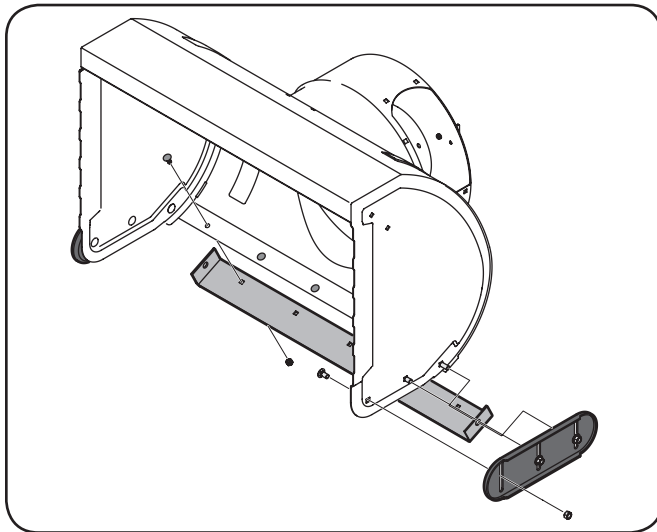

Figure 6-1
1. Remove the six carriage bolts and flange lock nuts that secure the two skid shoes to the sides of the auger housing. Refer to Figure 6-1.
2. Position the new skid shoes and secure with the carriage bolts and flange lock nuts previously removed. Make certain the skid shoes are adjusted to be level. Refer to Figure 6-1.
2. Loosen the hex nut on the shift cable index bracket. See Figure 6-1.